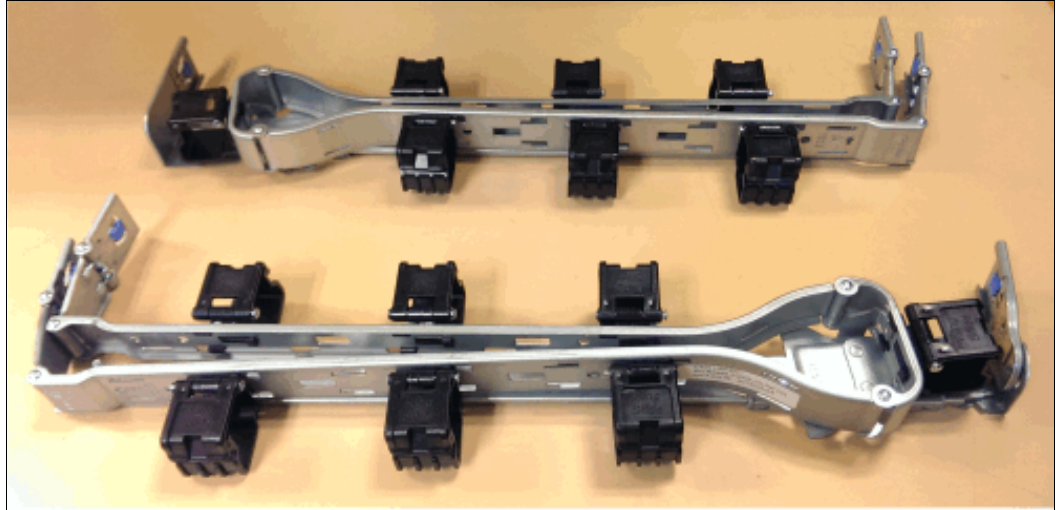

Figure 6-22 Model A9F expansion enclosure cable arm assemblies
9. Install the cable management arms (CMA). The cable management arms consist of an upper arm and a lower arm assembly, as shown in Figure 6-22 on page 185.